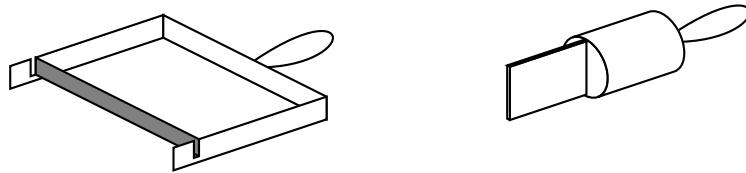

Figure 3: Rubber Band Bumpers and Bumper Plates
1. Insert an elastic rubber band bumper to the end of one glider (Figure 3), and insert a bumper plate to the end of the other glider.